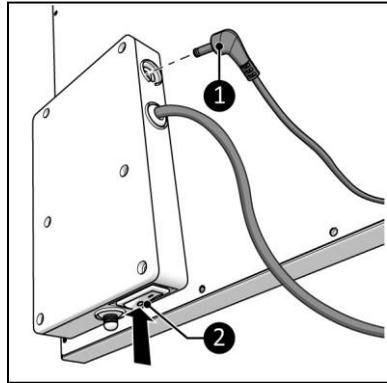

Figure 15
1. Make sure the ON/OFF switch is in the OFF position (Figure 15, pos. 2)
2. Connect the temperature sensor connector (Figure 15, pos. 1) to the sensor plug.